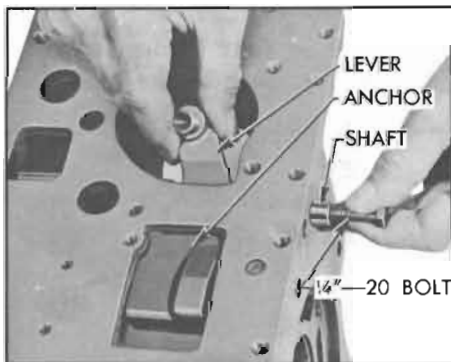

Figure 5-39—Removing Reverse Band Operating Lever and Shaft
4. Thread a 1/4"-20 bolt into the reverse band anchor shaft to pull it from transmission case; then remove the operating lever. Rotate the reverse band until the anchor can be disengaged, then remove this part. See figure 5-39.